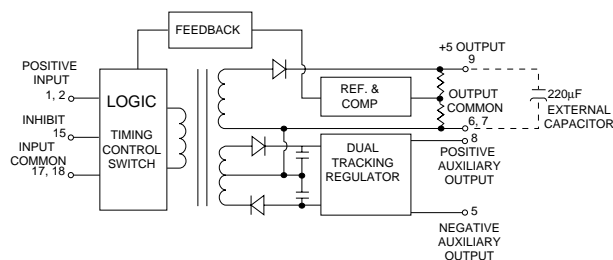

FIGURE 2:
- See Figure 2 for connection diagram.